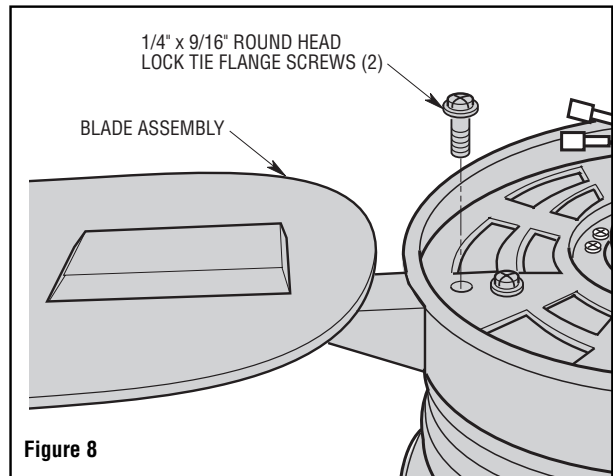

Figure 8
- Slide the blade assembly into the housing slot. Attach the blade assembly using two 1/4" x 9/16" round head lock tie flange screws. Attach the remaining four blades (Figure 8).